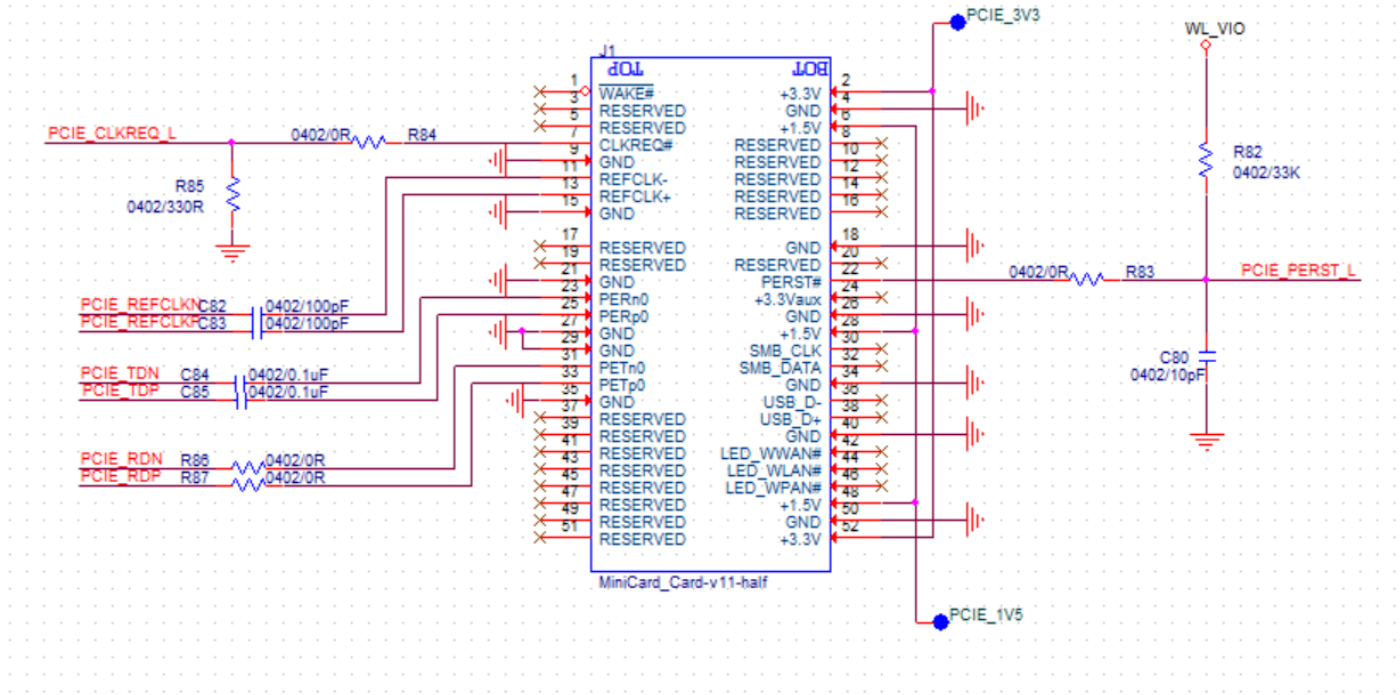

Figure2. WiFi verification connection interface to Host PCIe
- ❖ Refer to Figure2 PCIe pin definition connects the J4 interface of AP6676P/PR3 evaluation board to Host PCIe control interface.